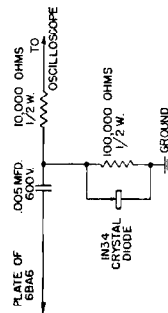

FIG. 7
- (A) Connect the scope to detector probe as shown in Figure 7 to plate (pin 5) of 6BA6 input IF amplifier and short out trimmer C47.
1. Connect a detector probe as shown in Figure 7 to plate (pin 5) of 6BA6 input IF amplifier.
4. Connect scope with vertical gain at maximum to output of detector probe shown in Figure 7 and short the trap (21.9 MC.) on T4 by soldering wire across trimmer C47.